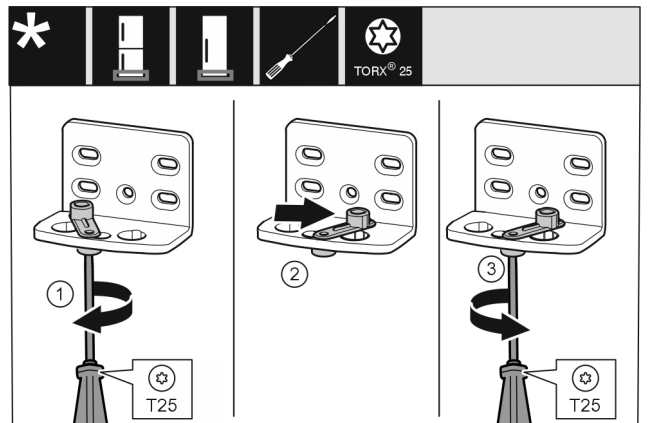

Fig. 12
- ▶ Loosen the screw using a T25 screwdriver. Fig. 12 (1)
- ▶ Lift the door closing aid and turn it 90° to the right in the hole. Fig. 12 (2)
- ▶ Tighten the screw using a T25 screwdriver. Fig. 12 (3)